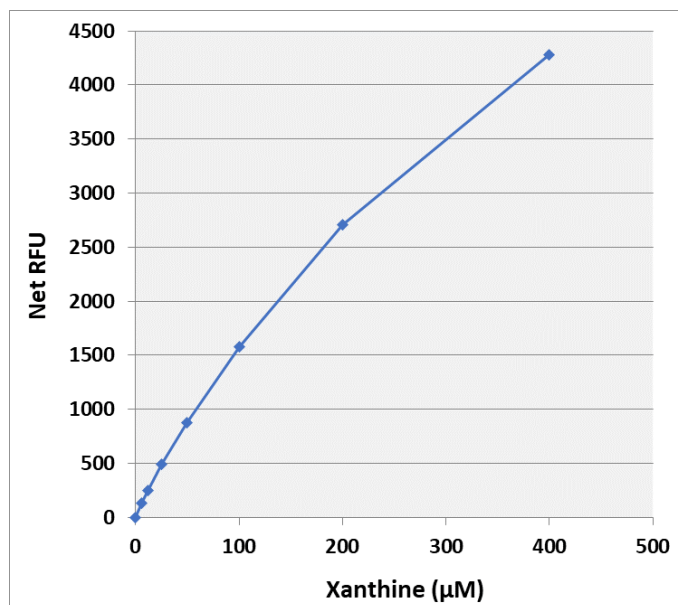

Figure 2: Xanthine Standard Curve.
3. Graph the standard curve (see Figure 2).